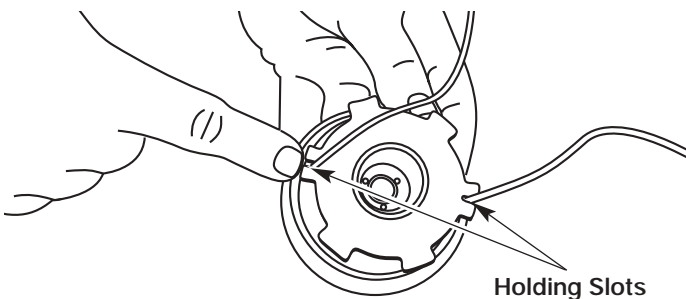

Fig. 43
- Insert the ends of the line into the two holding slots (Fig. 43).